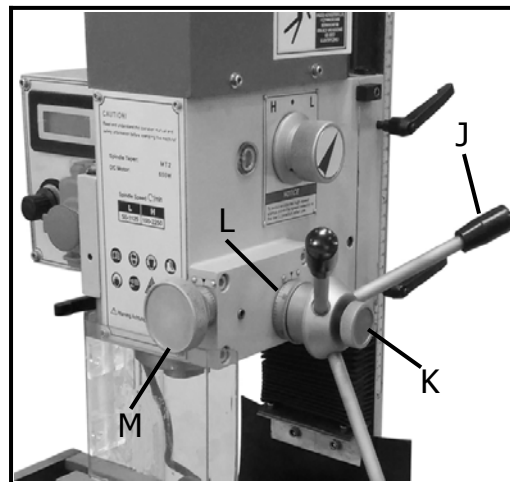

Fig. 08
**Down feed Handles: (J, Fig. 08):**
**The knob (K, Fig. 08) must be loose before the operating the handles.** The graduated dials (L, Fig. 08) on the handle base can be indexed or “zeroed” to help make accurate and convenient movements.
Turn counter-clockwise the knob (K, Fig. 08) to engage the fine down feed knob (M, Fig. 08) what located on the front of the head. Turn it according to you want to move downward, Clockwise turn the hand wheel to down feed the spindle, reverse to retract it.